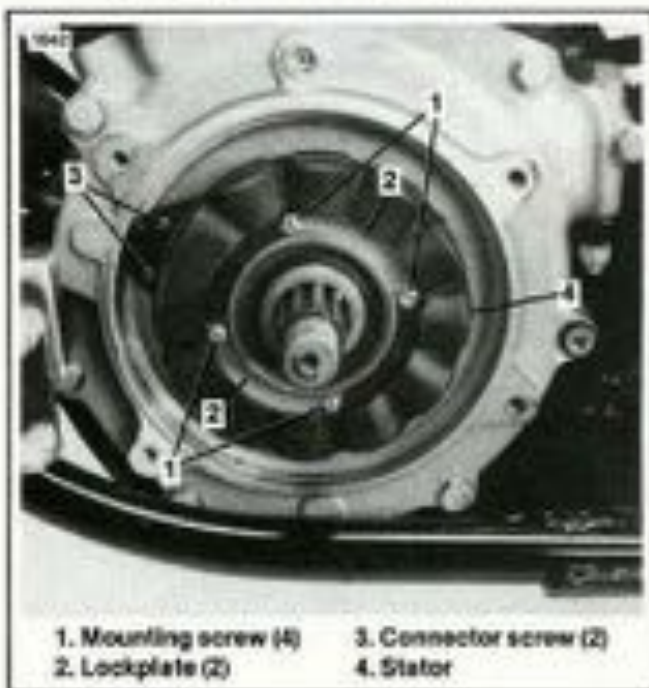

Figure 8-20. Stator
3. See Figure 8-20. Remove the four screws (1) and two locking plates (2). Remove the other two screws (3). Unplug the regulator and remove the stator (4).
1. See Figure 8-20. Install the stator on the sprocket shaft and fasten using the locking plates (2) and four screws (1). Tighten screws (1) to 30-40 in-lbs torque. Install the two screws (3) and plug in the regulator.